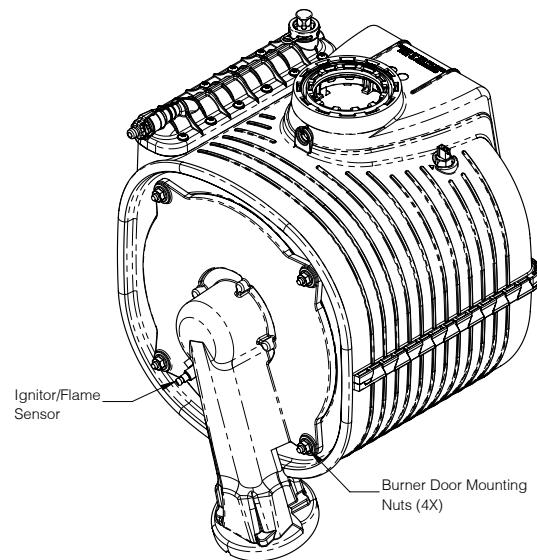

Figure 18-1: Ignitor/Flame Sensor Location
- F. Use a 10 mm wrench to remove four nuts securing burner door to heat exchanger (Figure 18-1). Carefully remove door/blower, being careful not to damage the refractory insulation on inside of door (see Refractory warning) or ignitor/flame sensor.